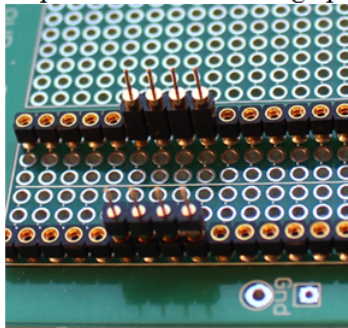

Figure 5. 4-Pin Length Terminal Strips Inserted in DIP Socket
Step 5. Insert header strips into a spare DIP socket as shown in Figure 5.